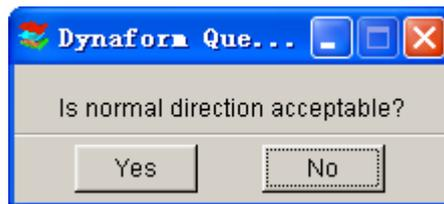

Figure 5.6.2 DYNAFORM Question
- A DYNAFORM QUESTION window appears. See Figure 5.6.2